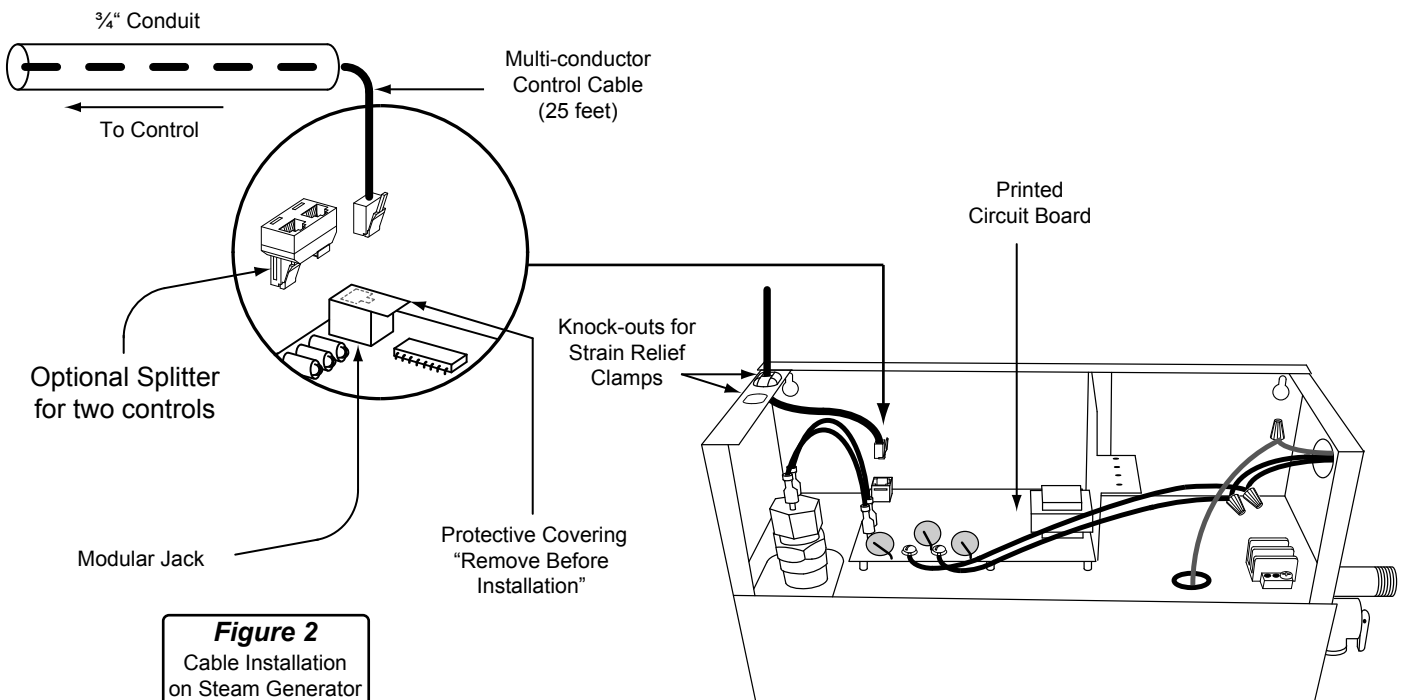

Figure 2
- a) Remove the multi-conductor cable from the control packing box. Carefully route the multi-conductor control cable from the Steambath Generator to the TC-110 located either inside or outside the steamroom (see Figure 2). Route multi-conductor cable through a 3/4" conduit to protect the cable from damage and to facilitate replacement if necessary.
- a) Locate the previously installed cable and black plastic strain relief clamp which is in the control packing box. Locate the knock-out on the steam generator for the control cable (see Figure 2).